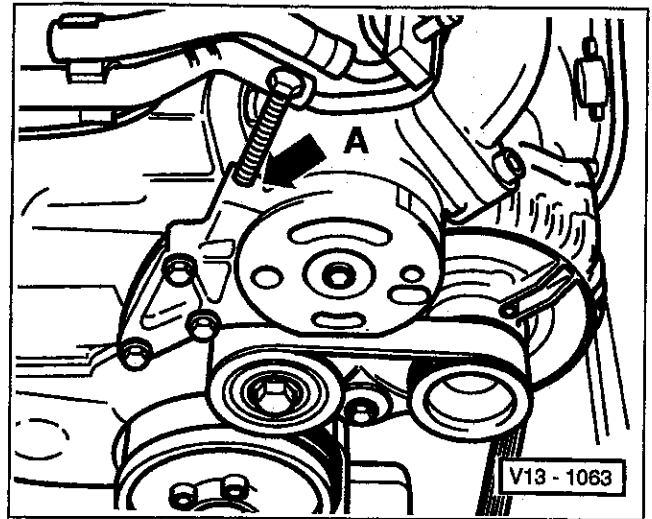

Fig. 22. To relieve poly-ribbed belt tension on 6-cylinder engines, thread M8x80 bolt (A) into tensioner until belt is free of tension.
3. Temporarily install bolt (M8x80) in threaded hole in tensioner and thread bolt in until poly-ribbed belt is free of tension. See Fig. 22.